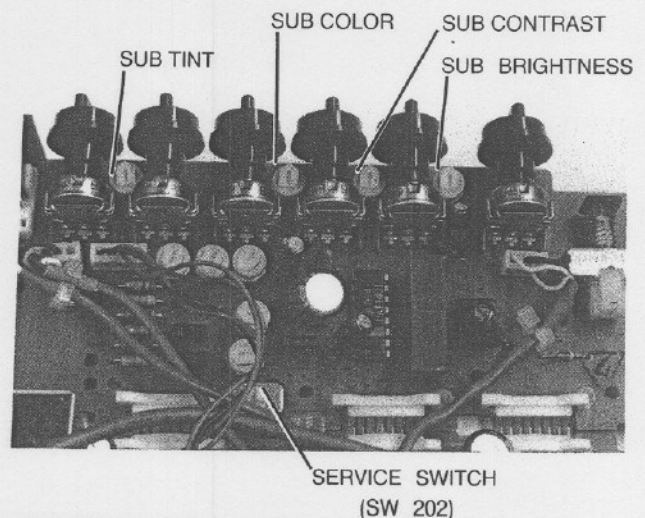

Figure 3-15. Sub controls for front panel controls
2. Set the service switch, SW202 to the SERVICE setting to produce a horizontal line at mid-screen. See Figure 3-15.
3. Refer to Figure 3-15. Adjust Sub-tint, R316, and Sub-color, R312, so that the blue bars (white, cyan, magenta, blue) are equally bright and the bars that contain no blue (yellow, green, red, black) are equally black.